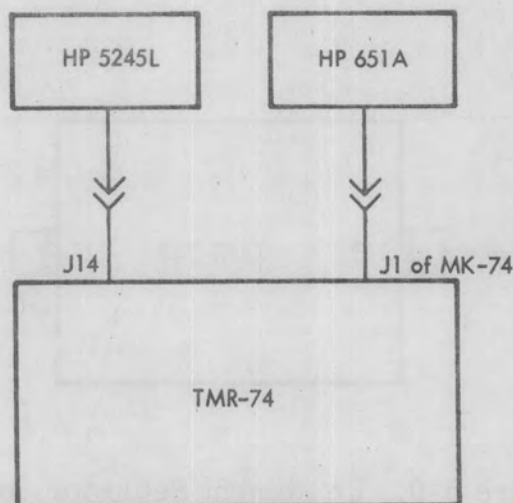

Figure 5-8. Equipment Setup for Predetection Up-Converter Tests
- a. Connect equipment as shown in figure 5-8. Set controls as follows: